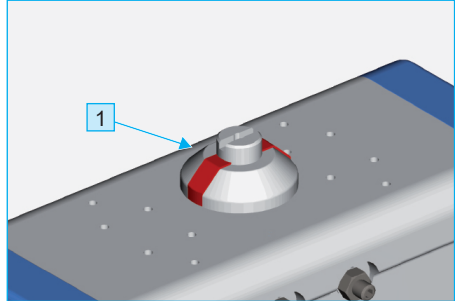

Fig. 3-10 Operating and display elements of the rotary actuator actubar
- Fig. 3-10 indicates the open position
- Fig. 3-10 indicates the closed position